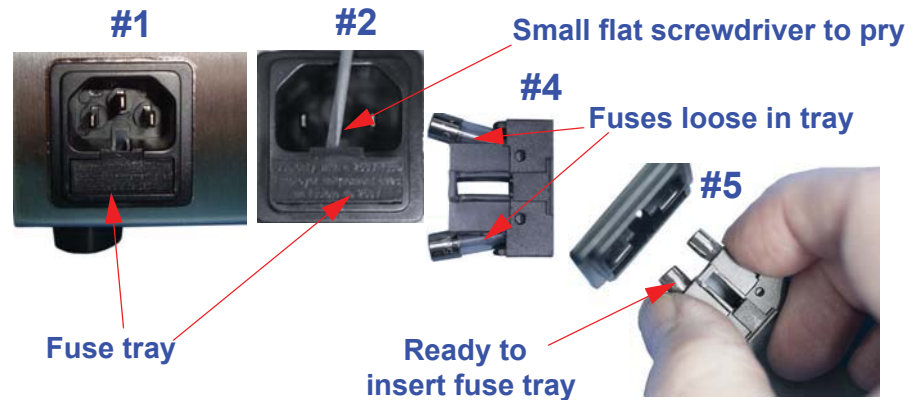

Figure 3-17 Replacing Fuses
To replace fuses, disconnect AC supply cord from instrument. The fuse tray is located on the bottom of the power inlet (Figure 3-17).
1. Remove power cord and note fuse tray location (Figure 3-17, #1).
2. Using a small flat blade screwdriver, insert tip under lip of fuse tray and pry gently outward. See Figure 3-17, #2.
5. Grasp the tray in a manner that holds the fuses in the tray, as shown in Figure 3-17, #5. Place tray into opening, release hold on fuses and slide tray in slowly until fuses engage fuse sockets inside AC Power Inlet box. Push in firmly until tray is flush with Inlet body.